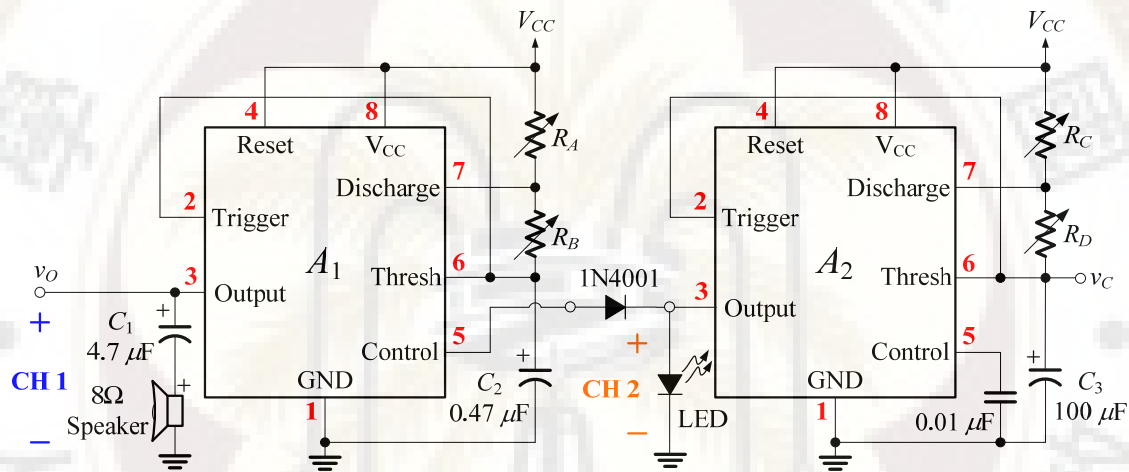

Fig. 7 An Alarm Bell Circuit using the LM555 IC
- (1) In Fig. 7, supply voltage $V_{CC} = +5V$, $I_{SET} = 0.5A$.
- (2) Do not connect 8Ω speaker in the following steps.
- (3) Use $10K\Omega$ VR for R_A , R_B , R_C , and R_D .
- (4) Attach CH1 and CH2 probes of oscilloscope to pin 3 of A_1 and A_2 , respectively
- (5) Observe the measured waveform in CH1 and CH2.
- (6) Adjust R_A to have f_0 (CH1) = $300 \sim 700$ Hz, and R_B to have Duty cycle = 50% .
- (7) Adjust R_C to have f_0 (CH2) = $0.1 \sim 10$ Hz, and R_D to have Duty cycle = 50% .
- (8) Connect 8Ω speaker. (Note: The speaker has to be acquired from TA.)
(9) Adjust R_A and R_C to have an appropriate sound similar to the alarm bell.
- (14) In Fig. 7, replace the record the 8Ω speaker with LED (refer to Fig. 7).
(15) Observe whether the LED₂ twinkles in your eyes. Why?
(16) Briefly describe the answer in your homework report.